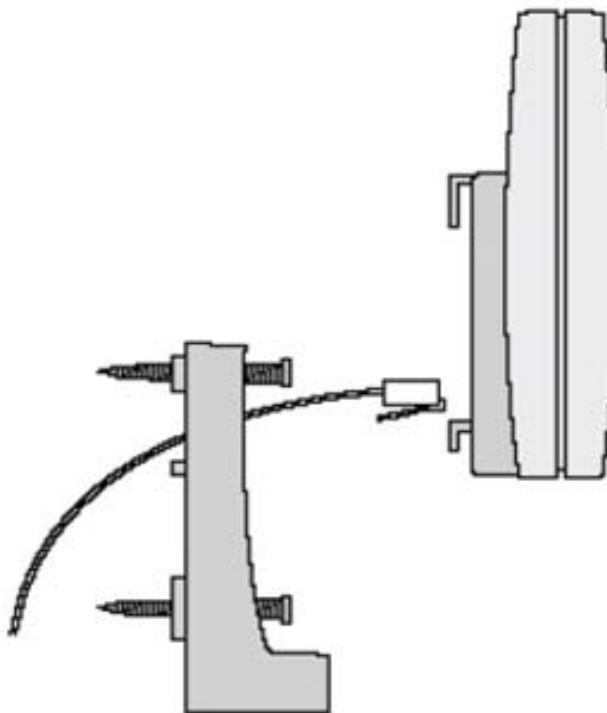

Fig. 2 Connecting power to the KIRK Repeater
- Feed the power cable's modular plug of the through the middle of the wall-mounting bracket (fig. 2).